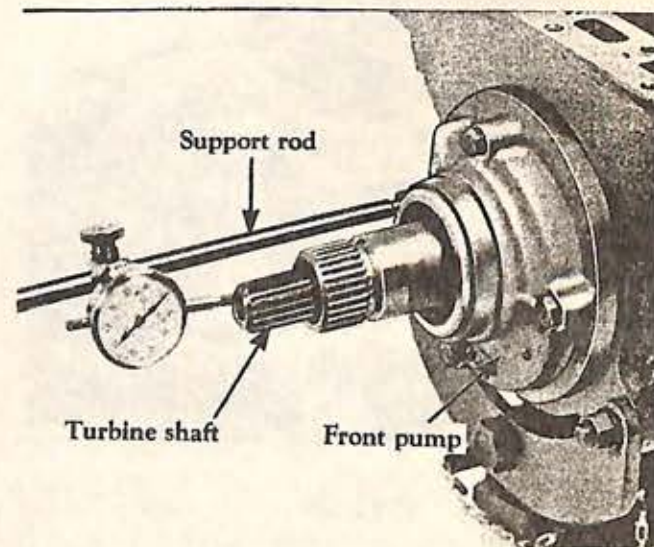

Fig. 35
1. Remove one of the front pump attaching capscrews. Mount the dial indicator support rod in the front pump capscrew hole. Mount a dial indicator on the support rod so that the contact rests on the end of the turbine shaft as shown in Fig. 35.